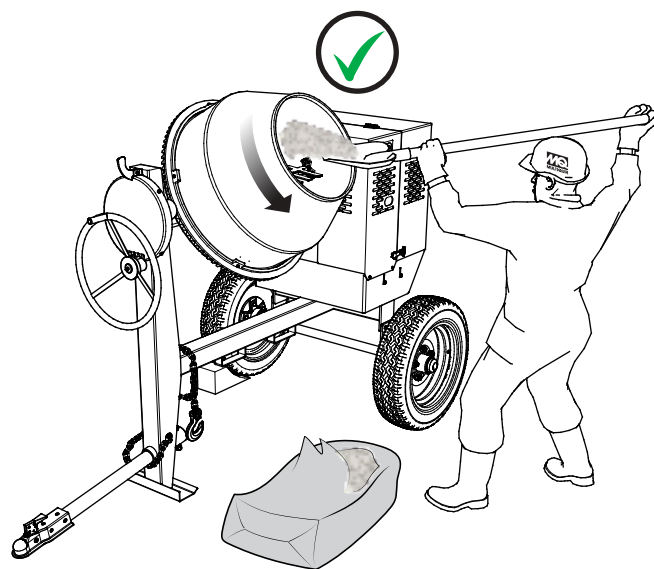

Figure 22. Filling Mixing Drum (CORRECT)
2. As the drum rotates, use a shovel (Figure 22) to place the cement mix inside the drum, add water as required. Be careful to only place the tip of the shovel inside the drum.